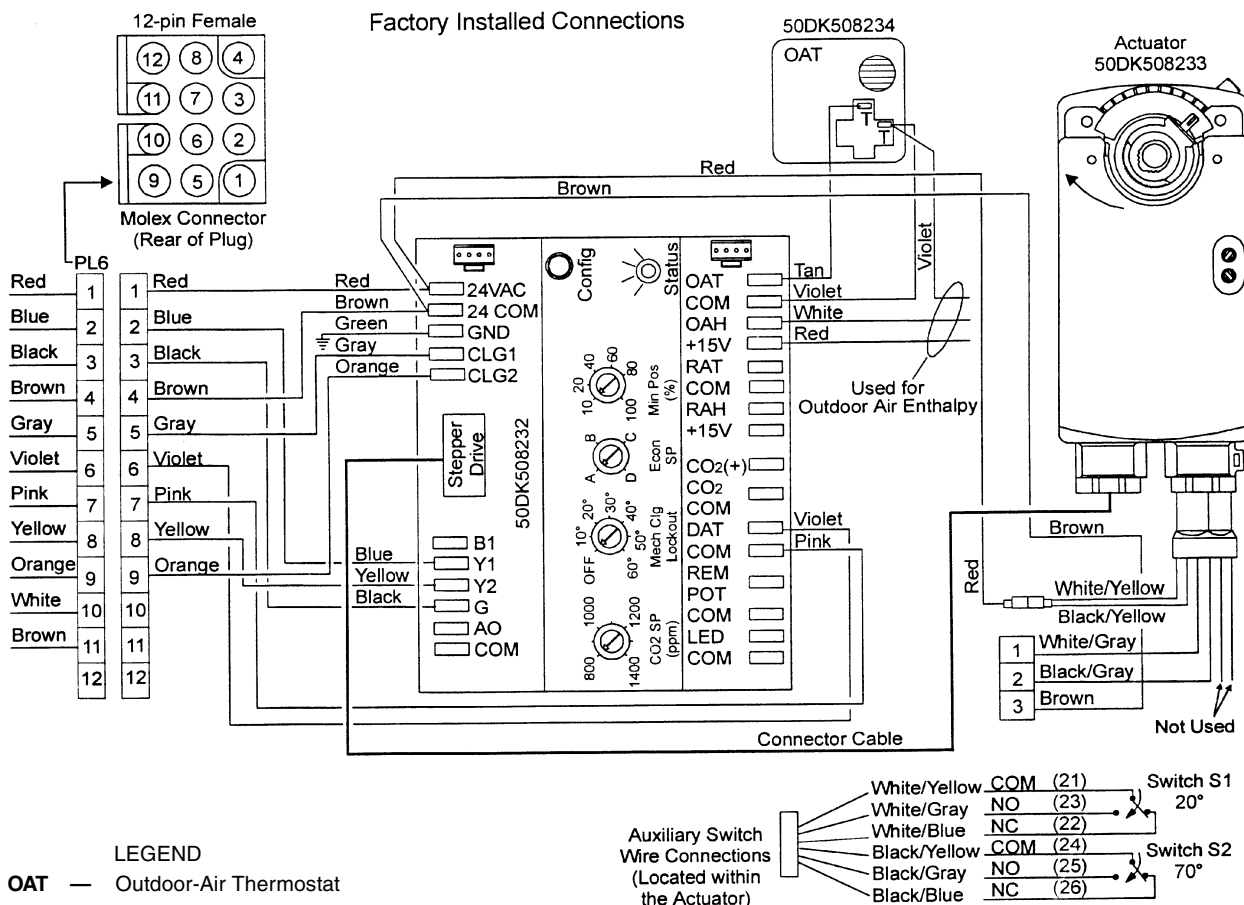
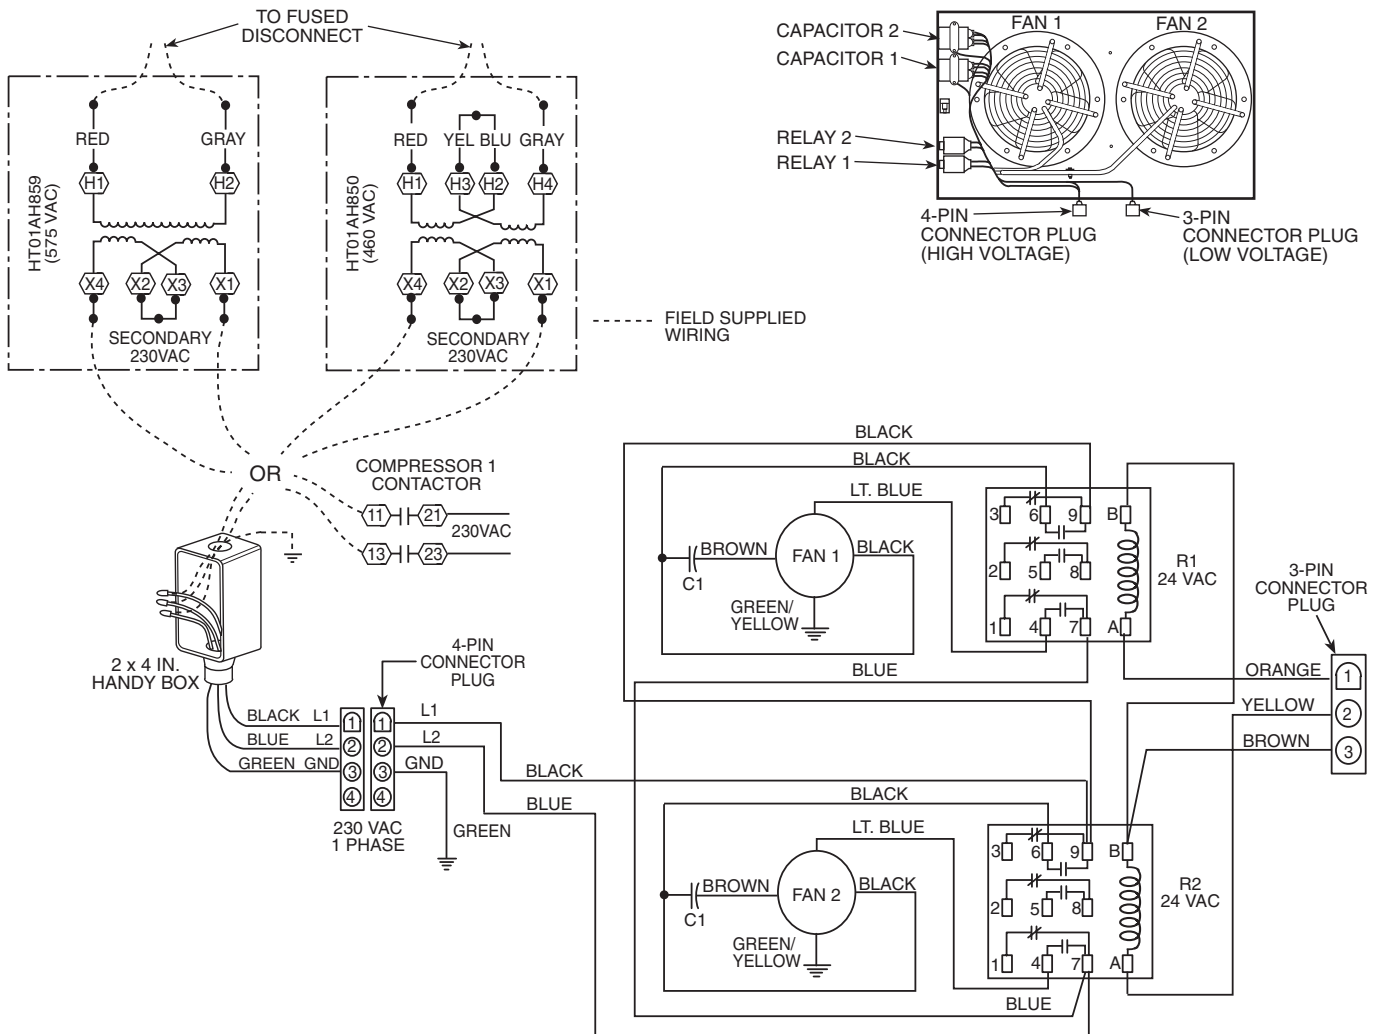

Fig. 30 — EconoMiSer Wiring
Fig. 32 — Wiring Diagram for Power Exhaust System
- the EconoMi\$er plug into the unit wiring harness. Refer to wiring diagram Fig. 30 and 31. Also refer to Fig. 32 if installing an accessory power exhaust.